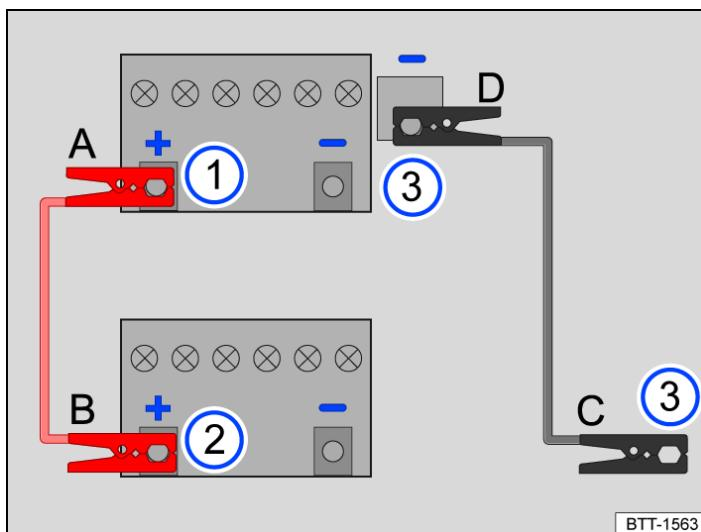
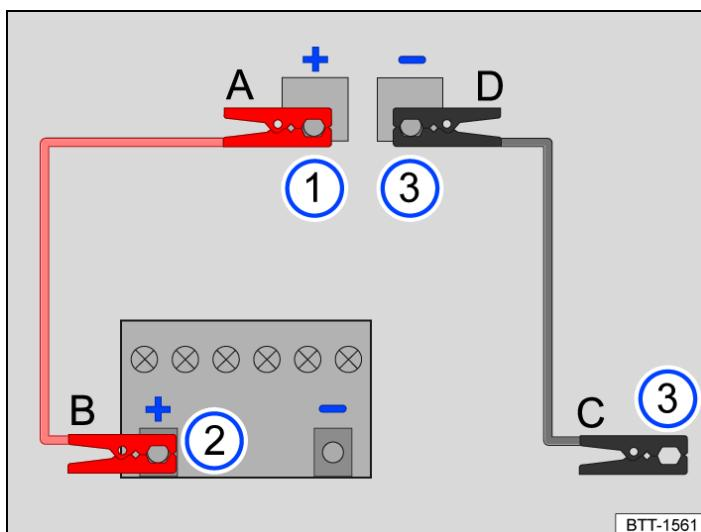

Fig. 1 Diagram for connecting the jump leads (12-volt vehicle battery in the engine compartment).
Fig. 2 Diagram showing how to connect jump leads on the vehicle providing the jump start (12-volt battery in luggage compartment).
### Key to Fig. 1 and Fig. 2:
The jump leads should be connected only in the order A – B – C – D → *Fig. 2*.
- Connect one end of the *red* jump lead to the jump lead connection point(positive terminal) (+) of the vehicle with the discharged 12-volt vehicle battery → *Fig. 2* 1 → .
- Connect the other end of the *red* jump lead to the positive terminal+ of the vehicle battery providing assistance → *Fig. 2* 2.
- On the vehicle with the 12-volt vehicle battery providing assistance, connect one end of the *black* jump lead preferably to the jump lead connection point (earth connection), or otherwise to a solid metal part that is securely bolted onto the cylinder block, or to the cylinder block itself → *Fig. 2* 3.
- On the vehicle with the flat 12-volt battery, connect the other end of the *black* jump lead preferably to the jump lead connection point (earth connection) (-), or otherwise to a solid metal part that is securely bolted onto the cylinder block, or to the cylinder block itself → *Fig. 2* 3 → .